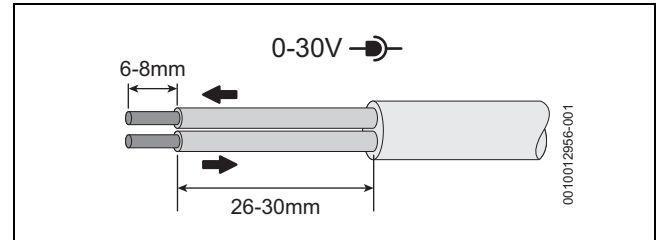

Fig. 59 Low voltage (signal cables) preparation
**Low voltage (signal cables), example → figure 59**